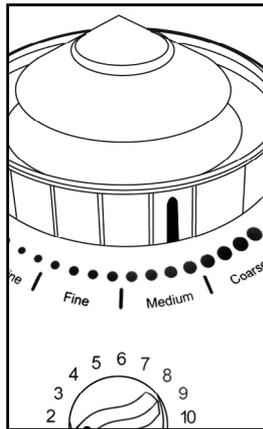

Fig. 3
1. Grinder only grinds with the bean container in place and the red line on the bean container pointing to one of the fineness settings (Fig. 3).